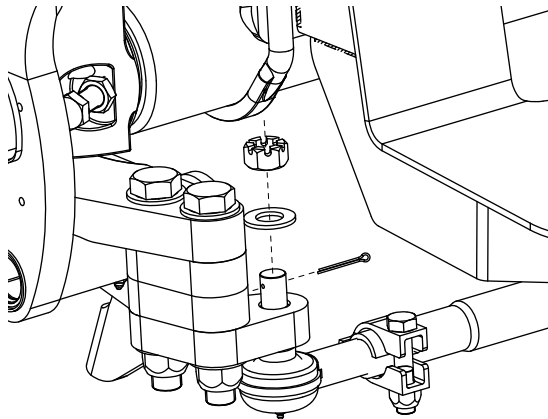

Figure 10: Remove tie rod fasteners
1. **Remove** the cotter pin and castle nut on the tie rod end to be replaced (Figure 10). Remove from both ends if both tie rod ends or the entire tie rod assembly is to be replaced.
3. **Install** washer and tie rod end castle nut onto tie rod end(s) (Figure 10).